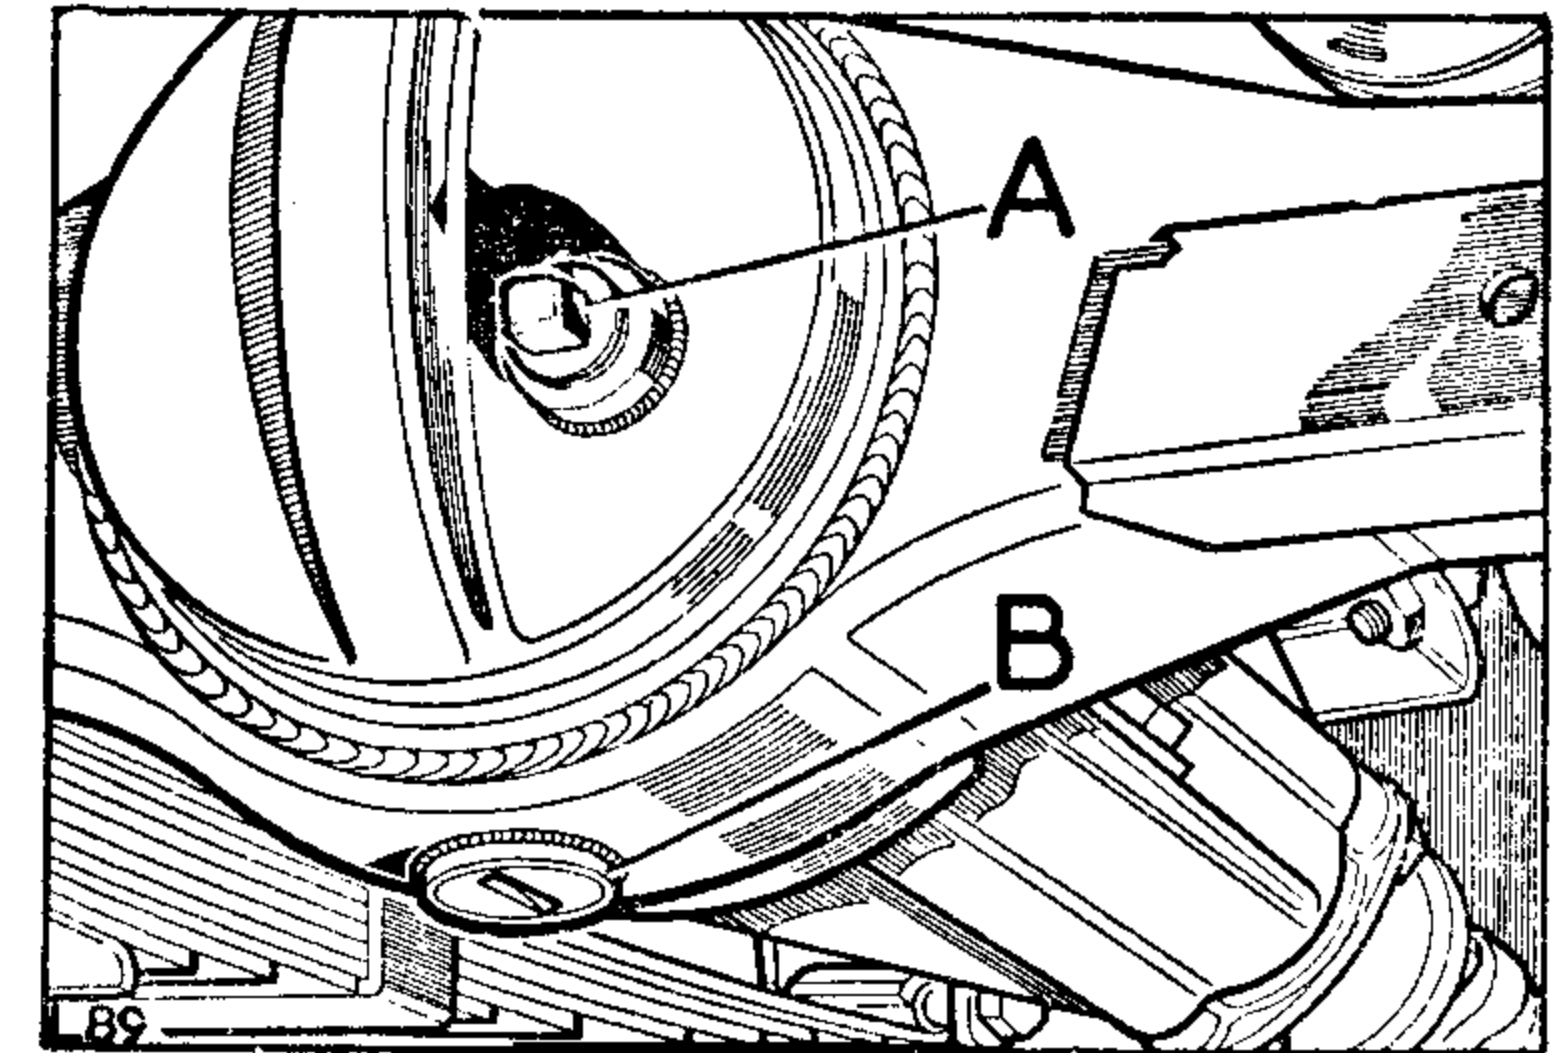
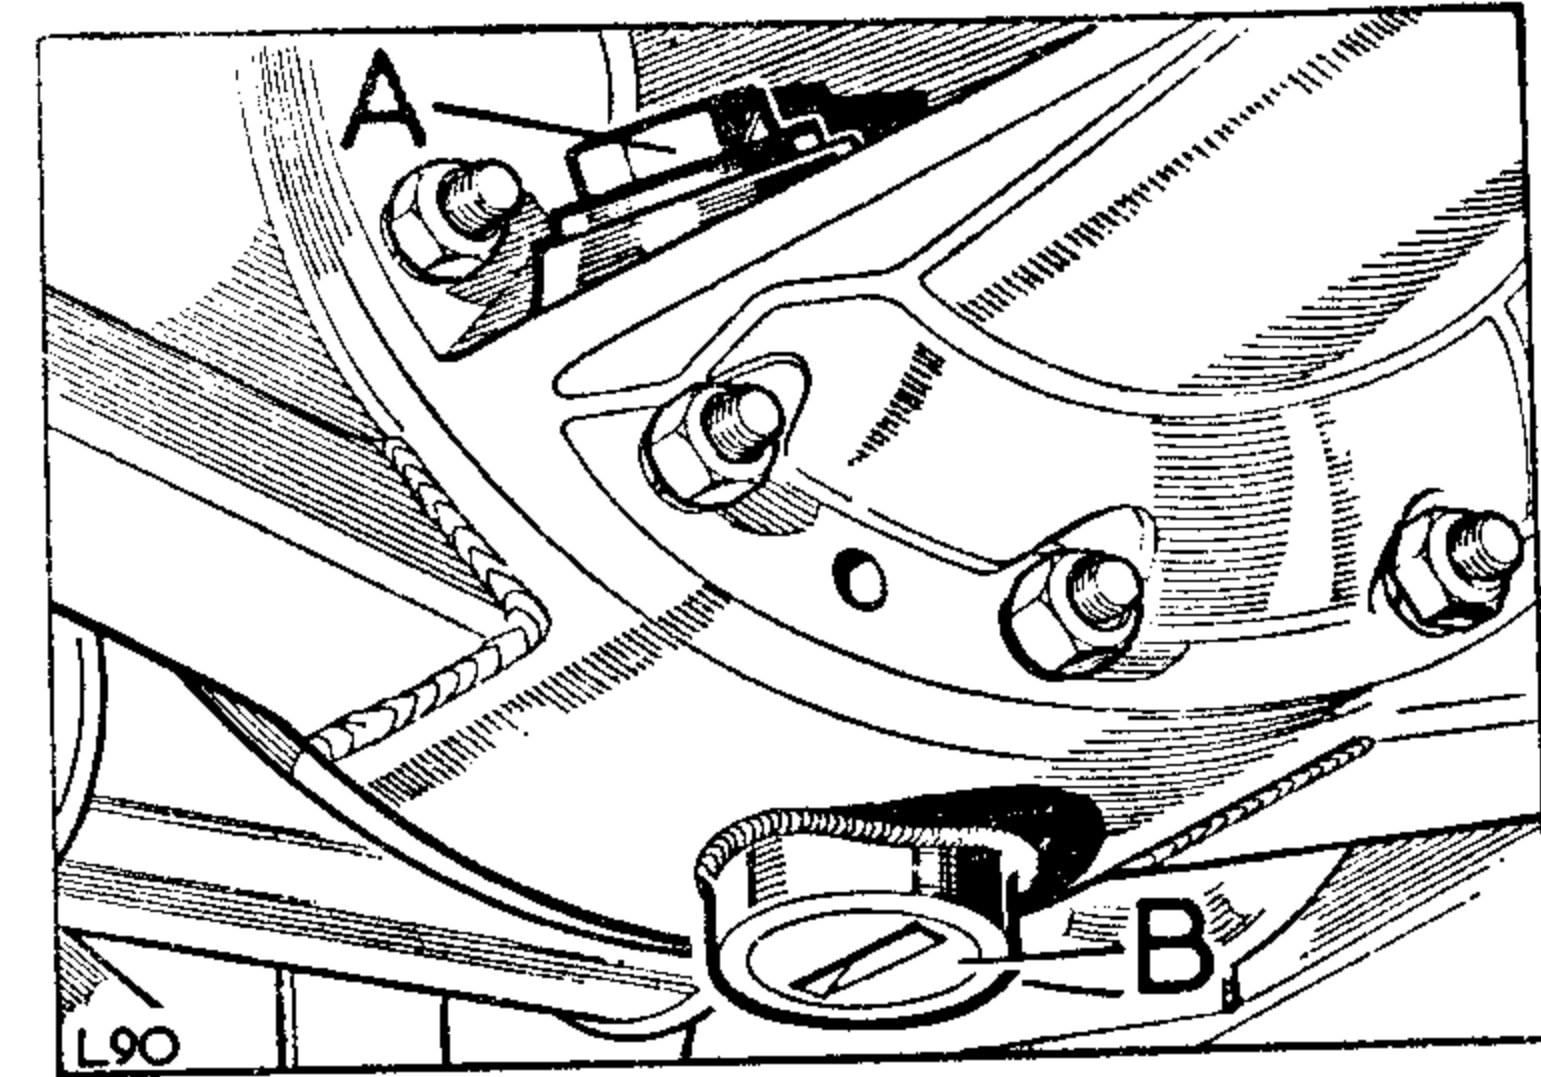

Fig. 44. Front differential oil filler-level plug
Fig. 45. Rear differential oil filler-level plug
Check oil level and top up if necessary to the bottom of the filler plug hole. The rear axle filler-level plug (A) Fig. 45 is on the right-hand side of the differential casing and the front axle plug (A) Fig. 44 is at the front of the axle casing.
1. Immediately after a run, when the oil is warm, drain off the oil by removing the drain plugs (B) Figs. 44 and 45 in the bottom of the axle casings.
2. Replace the drain plugs, remove filler-level plugs (A) Figs 44 and 45 and refill with oil of the correct grade; the capacity is approximately: